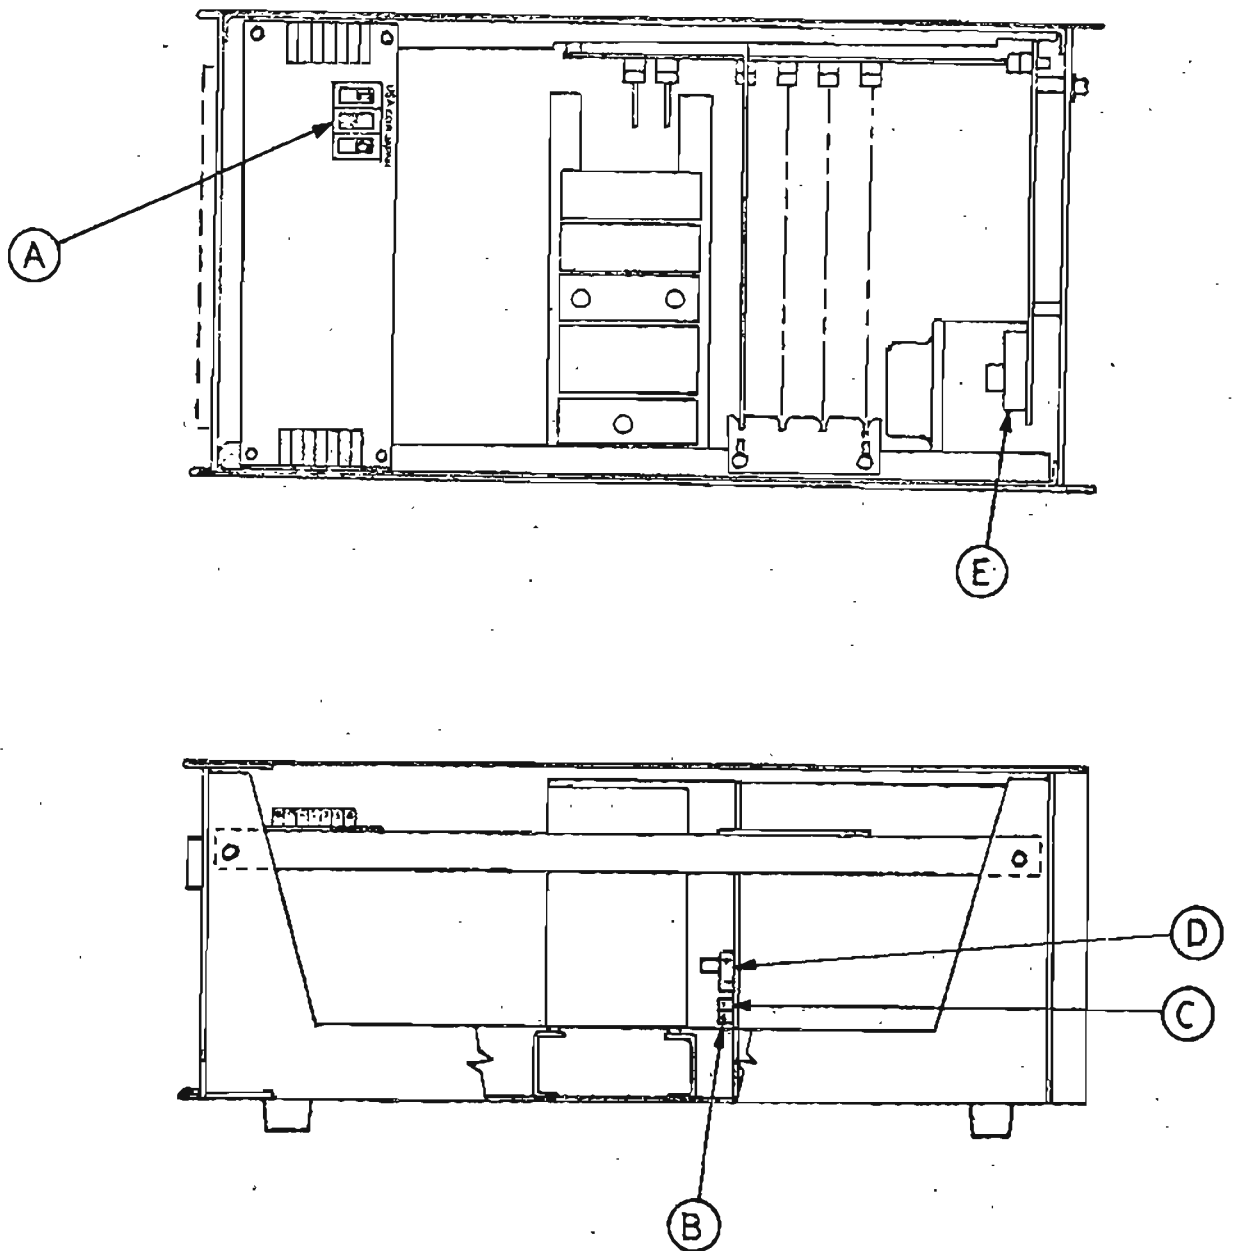

Figure 2-3
2.4 Internal Operational Adjustments (see Figure 2-3 for internal adjustment location)